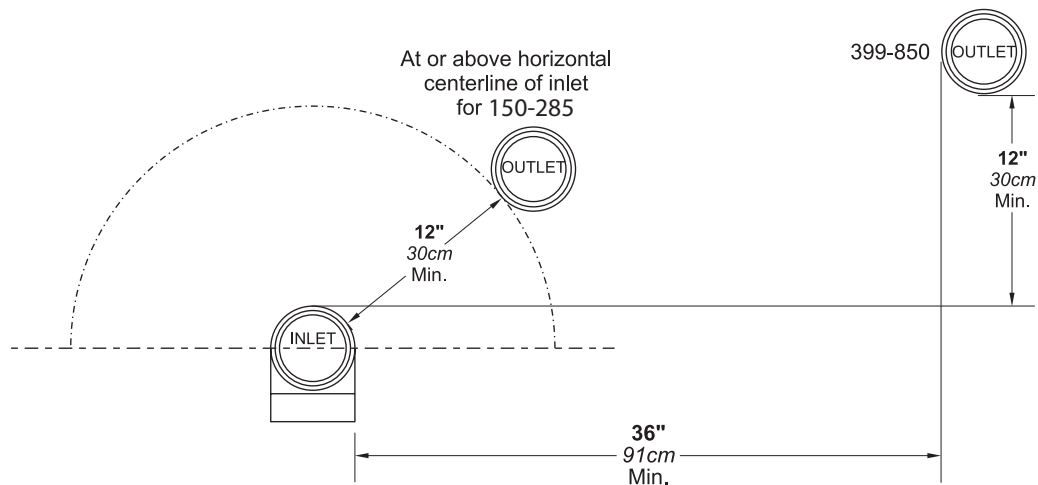

Figure 19. Minimum Venting Distance
5. Multiple vent kits should be installed such that the horizontal distance between the outlet group and the inlet group is 36" (90cm). (Figure 19.)